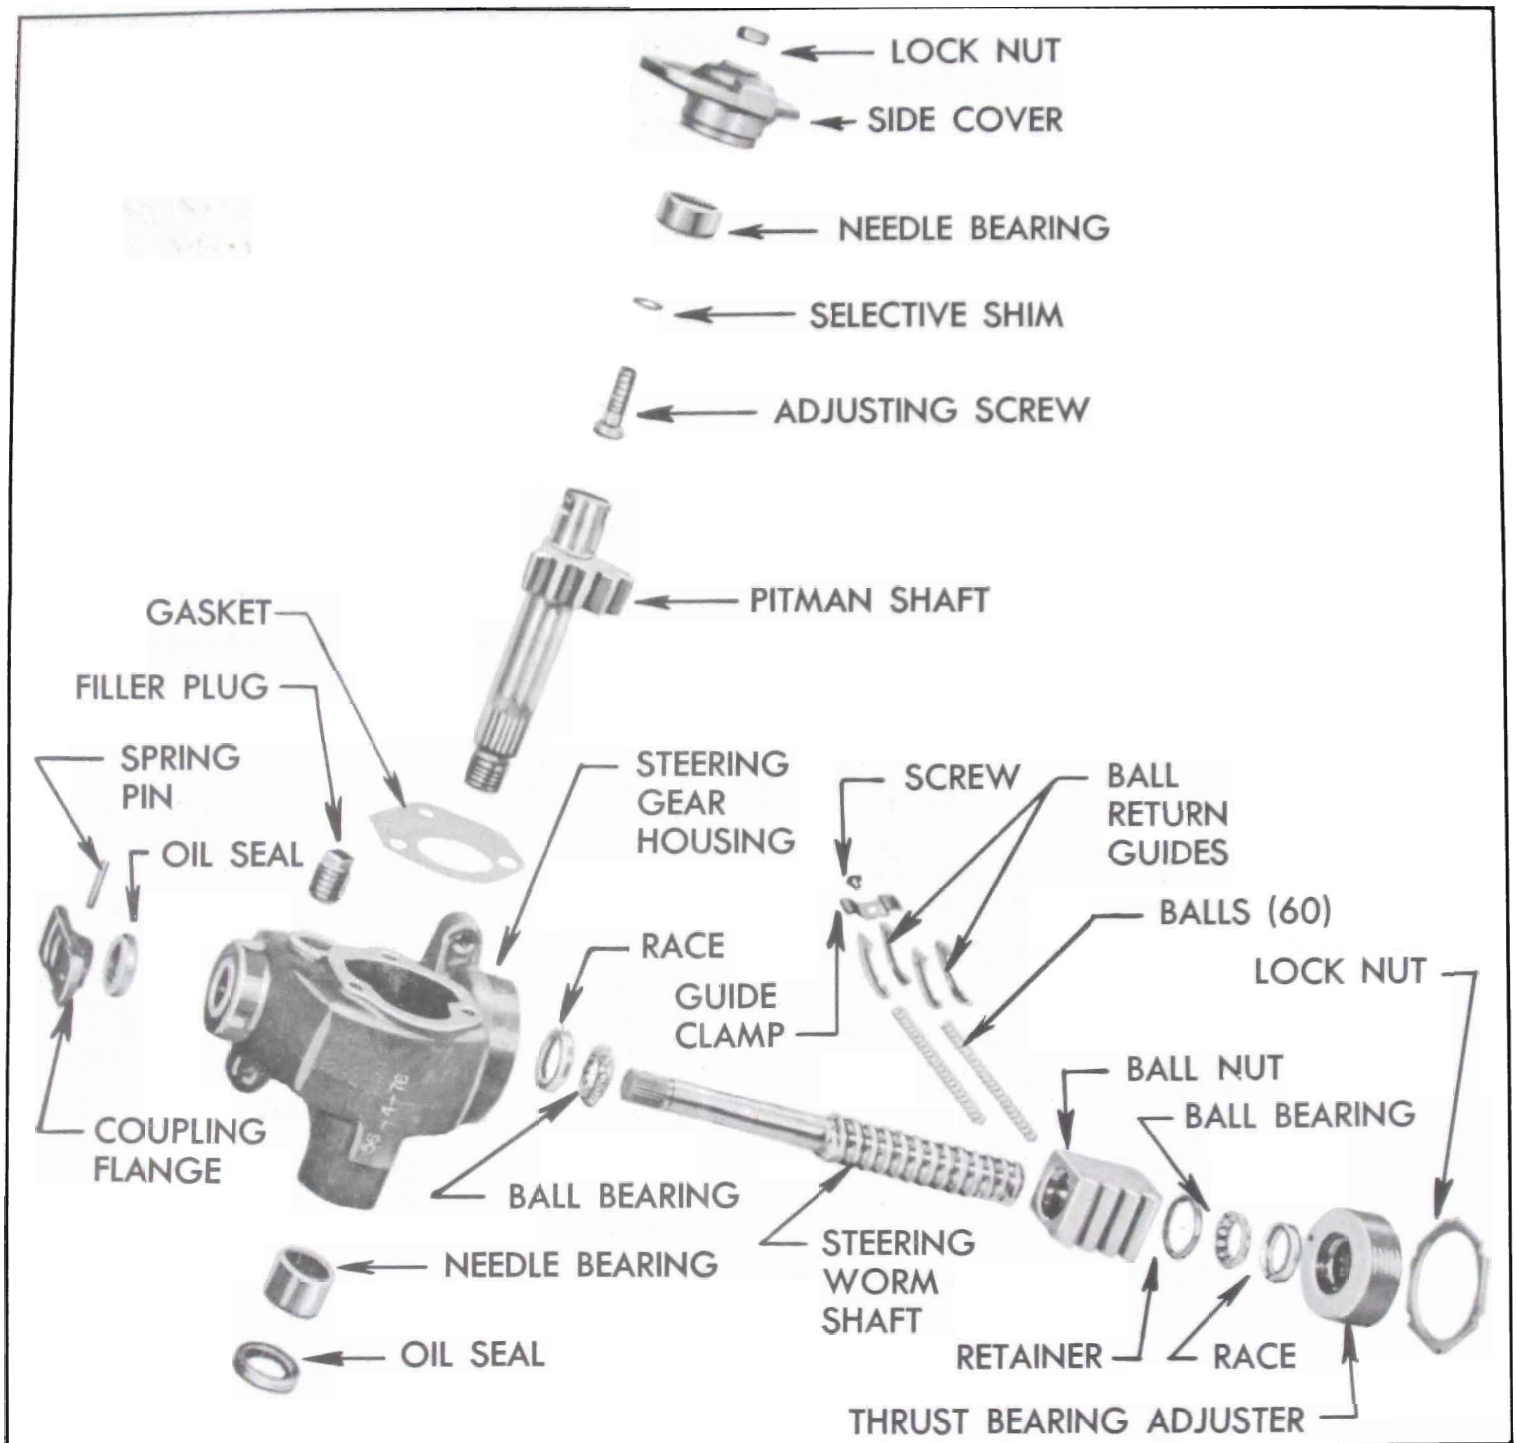

Figure 8-10—Steering Gear—Disassembled
2. Assemble ball nut on worm, making sure that there are 22 balls in each circuit and 8 balls in each return guide, making a total of 60 balls. Then install return guides and clamp. See figure 8-10.